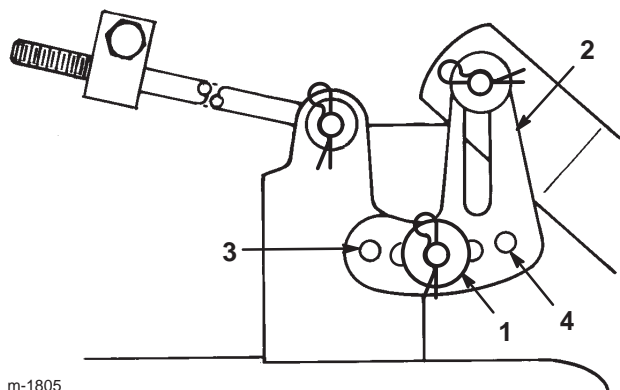

Figure 45
11. Remove the hairpin cotter and washer from the leveling bracket (Fig. 45).
12. Position the leveling bracket in a different hole and install the washer and hairpin cotter (Fig. 45).